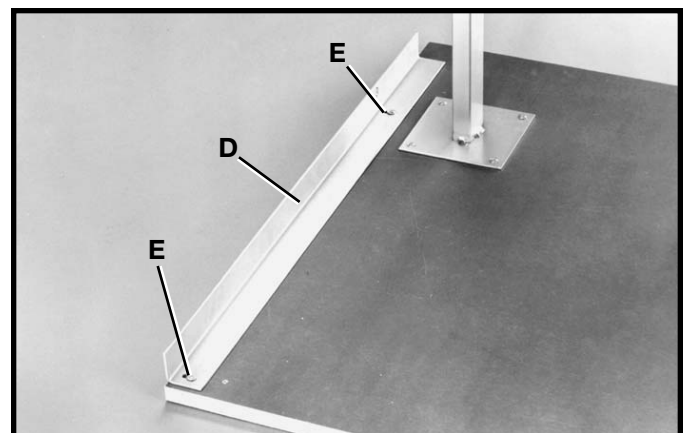

Fig. 50
3. Fasten front table support (D) Fig. 50, to the bottom of table using two 7/8" long wood screws (E) as shown. **CAUTION: DO NOT OVER-TIGHTEN SCREWS (E).** Over-tightening screws in particle board may cause them to strip. Do not completely tighten the two screws (E) at this time, as adjustment is necessary.